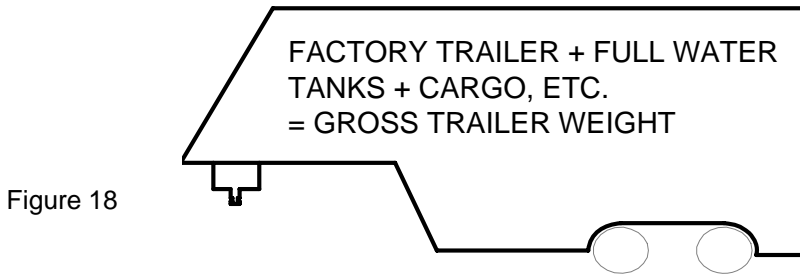

Figure 18
- Towing vehicle must have a manufacturer's rated towing capacity equal to or greater than the gross trailer weight (dry weight of the trailer plus payload of the trailer). (See Fig. 18)
| Gross Trailer Weight (Figure 18): | _____ | _____ |